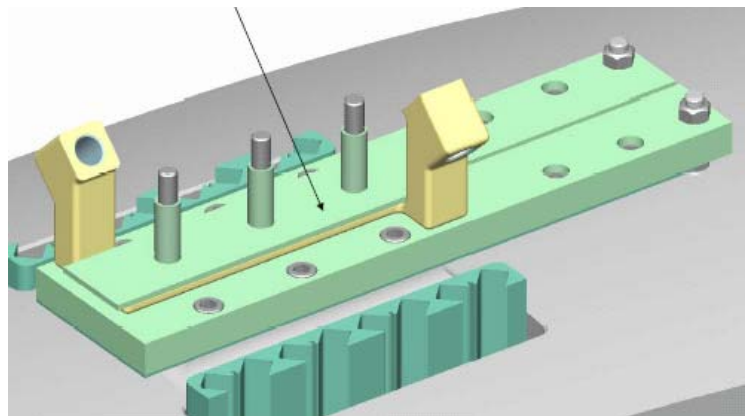
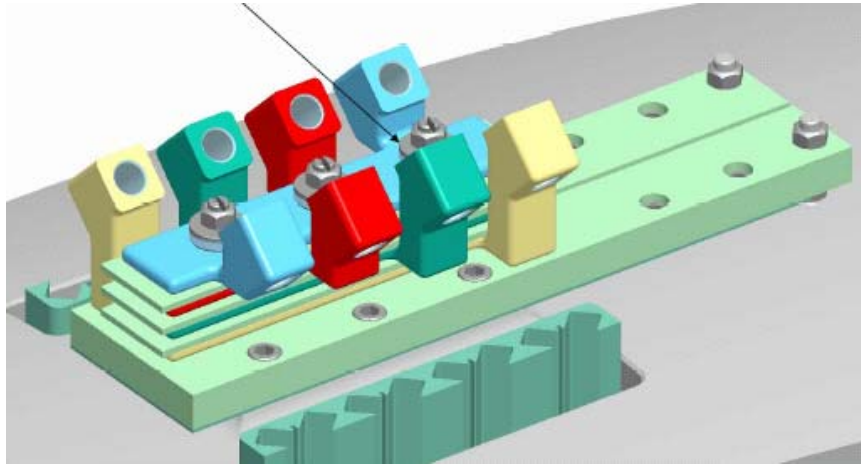

Figure 18-Jumper #1 and Insulating Plate Installed
Figure 19-Final Jumper#4 Installed and Secured
- Install jumper #1 then an insulating plate. Continue to alternate between jumpers and insulators until Jumper #4 has been installed. Then secure in place with Belleville washers, flat washer and nut. Do not torque the jumper hardware at this time. [Figure 18-Jumper #1 and Insulating Plate Installed and Figure 19-Final Jumper#4 Installed and Secured]